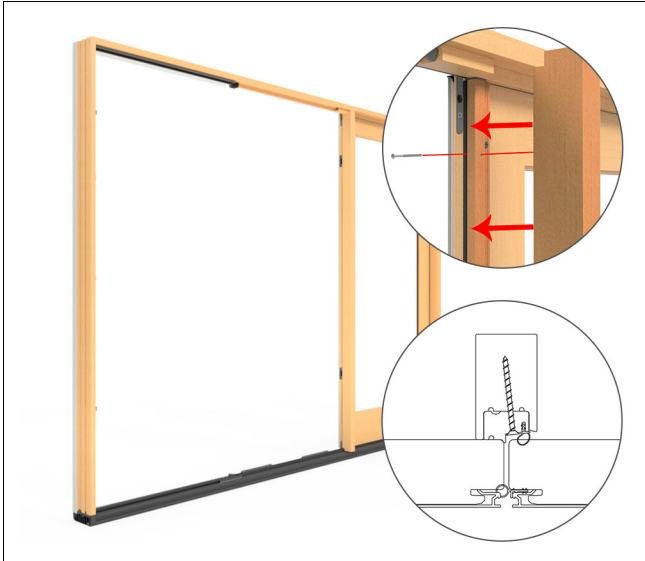

Figure 63
11. Before installing the second panel, attach the mull cover to the mull base with #7 x 2" screws. Use the pre-drilled holes in the astragal base as a guide. See Figure 63.